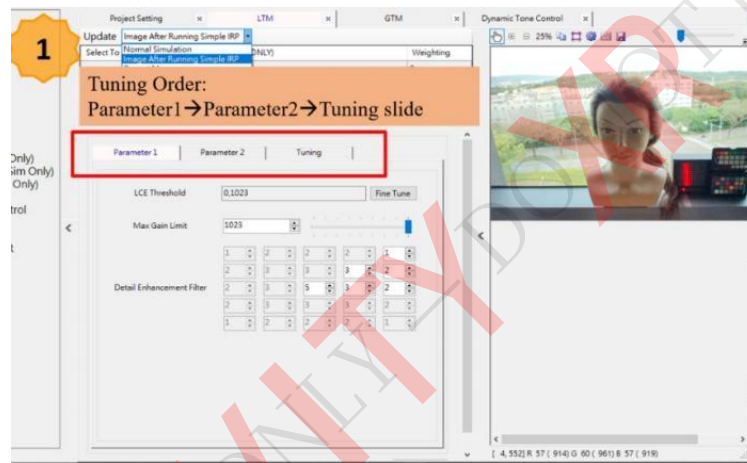

Fig 6.120 The LTM Interface
- ❑ The coefficients are smoother, like average filter, more detail enhanced. But may cause halo effect around the texture edge. (Fig 6.120)